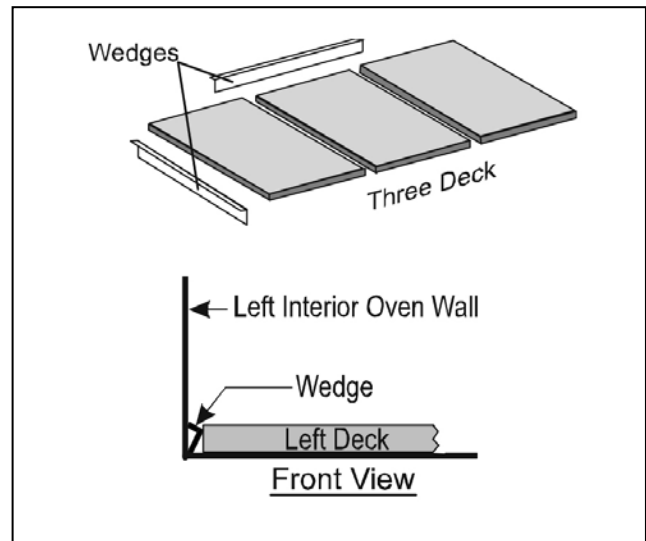

Figure 7
- Use wedges in the back and on the sides of the deck if the decks are loose. The three decks should be tight against each other with no gap between them (See Fig. 7).